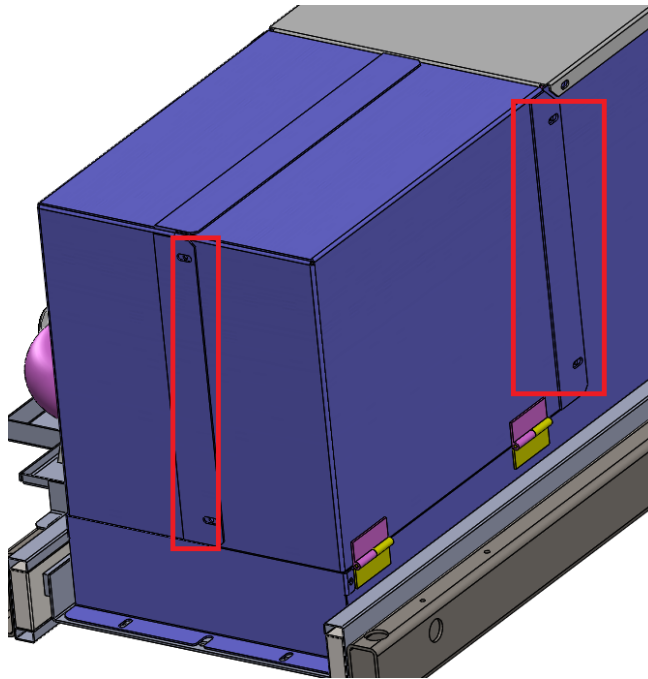

Fig 5
5. remove 6- fixed screw below picture red shown (See Fig5) , Set them aside for reinstallation